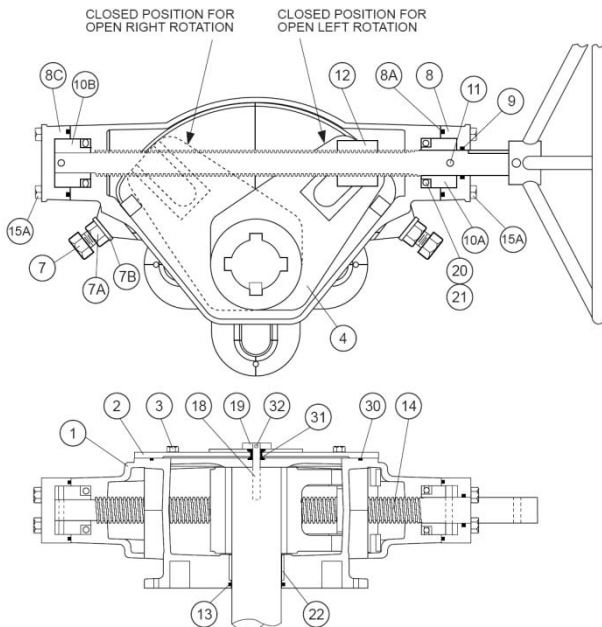

FIGURE 11. TRAVELING NUT ACTUATOR
TRAVELING NUT ACTUATOR MAINTENANCE: A typical traveling nut actuator is shown in Figure 11 and consists of a threaded nut (12) which travels back and forth on a threaded stem (14). The stem is lubricated with EP2 grease in a cast iron housing (1). The nut, in turn, drives a slotted lever (4) through 90 degrees of travel. The lever (4) drives the valve shaft with a square key. The rotation of the shaft is displayed by the top indicator (19). The full open and closed positions are controlled by the stop nuts (6). The stop nuts can be adjusted by pounding out the pin (7) with a drift punch and rotating the stop nut $\frac{1}{2}$ turn. The gear box is factory lubricated and sealed. No regular maintenance is required. If difficult operation is observed, the cover can be removed and the unit inspected for wear. All moving parts should be coated with grease. The grease should have an even and smooth consistency. If needed, coat all moving parts with an EP-2 grease such as Mobil Mobilux EP2. Buried units should be packed 100% with grease.